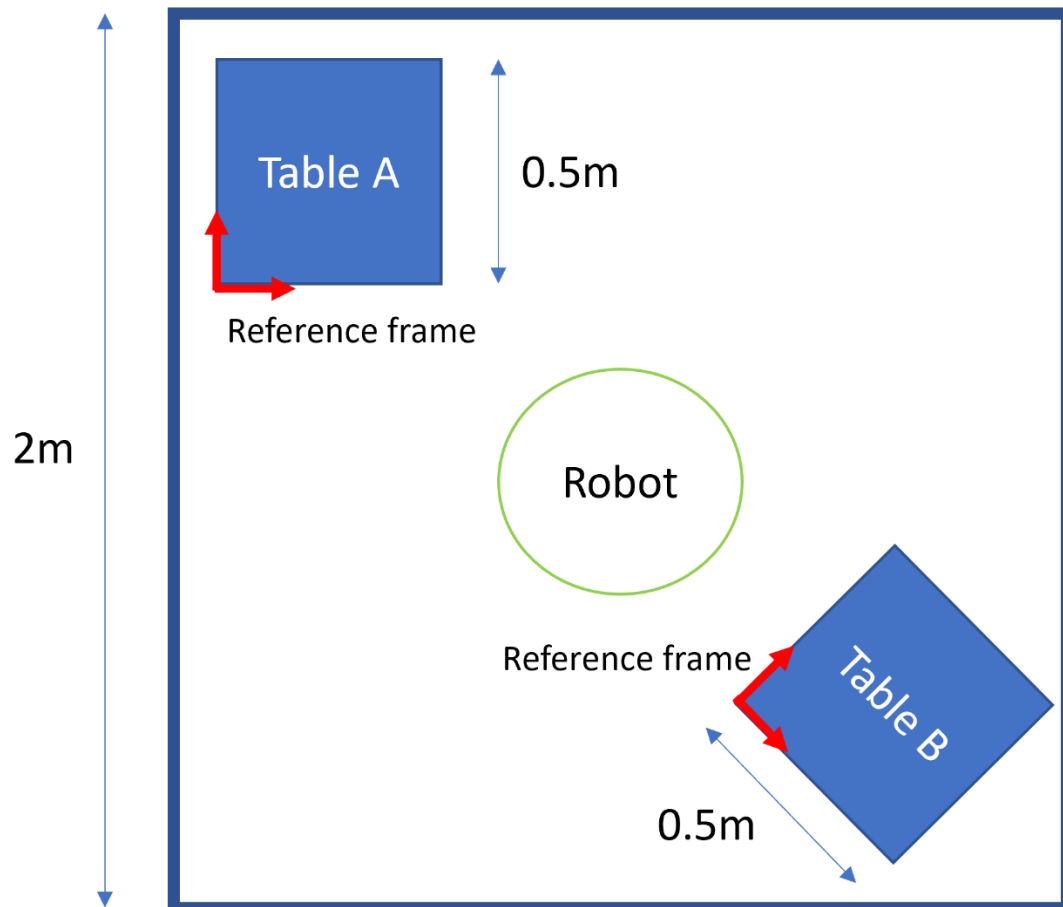

Figure 1, application footprint
- Workpiece needs to be picked from table A and placed on table B at position shown on figure 1.